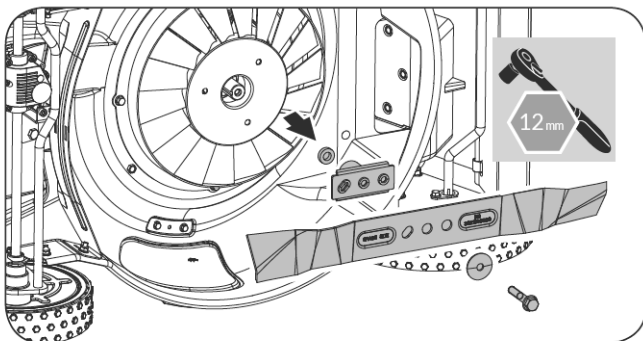

Figure 15
2. Remove the bolt fix the blade and remove the blade. (See **Figure 15**)